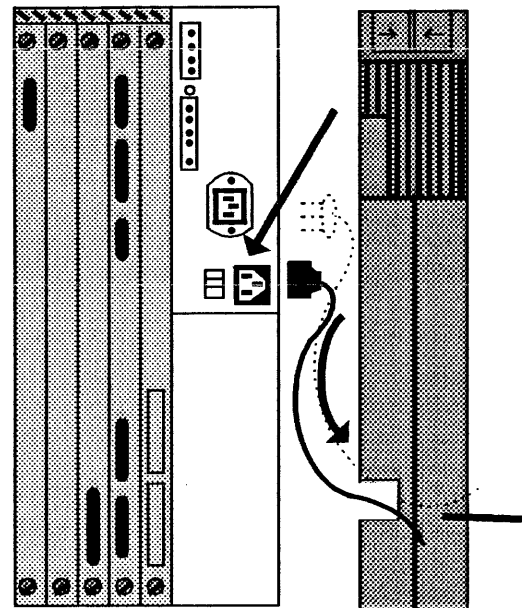

Figure 27. Connecting the Power Cord to the Processor Unit
5. Connect the power cord (packaged with the processor unit) to the processor unit and route it through the cutout in the rear cover (Figure 27).